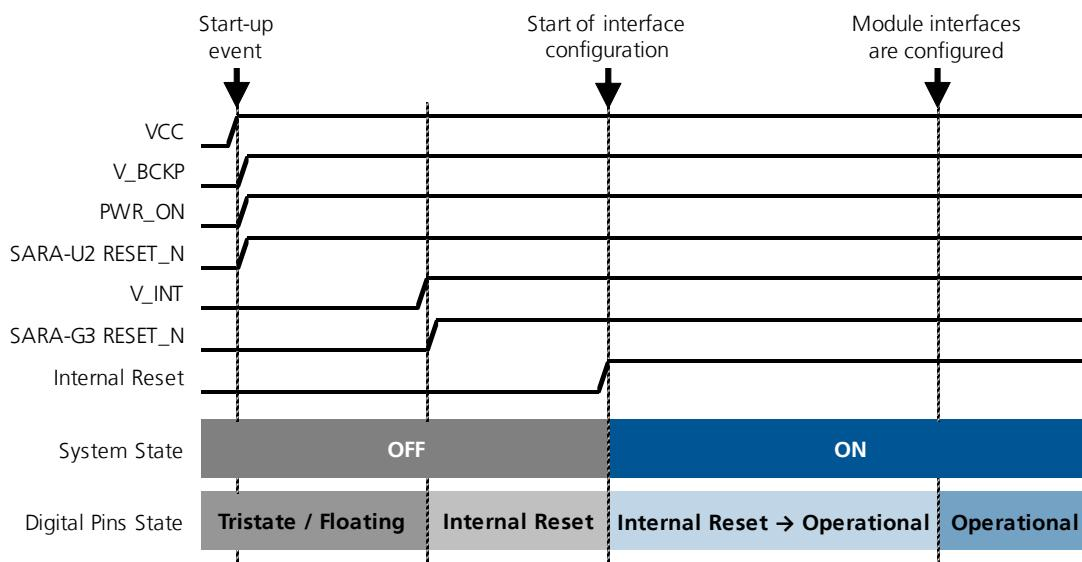

Figure 21: SARA-G3 and SARA-U2 series power-on sequence from not-powered mode
Figure 21 shows the module's power-on sequence from the not-powered mode, describing the following phases:
- The status of the **PWR\_ON** input pin while applying the **VCC** module supply is not relevant: during this phase the **PWR\_ON** pin can be set high or low by the external circuit, but in Figure 21 it is assumed that the **PWR\_ON** line rises suddenly to the high logic level due to external pull-up connected to **V\_BCKP** or **VCC**.